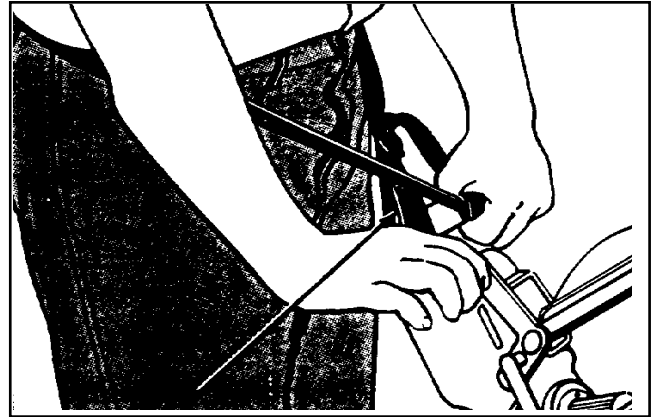

Figure 13
8. Gradually feather-cut out at the termination point by easing the contact wheel up with the control lever. (See Figure 13)